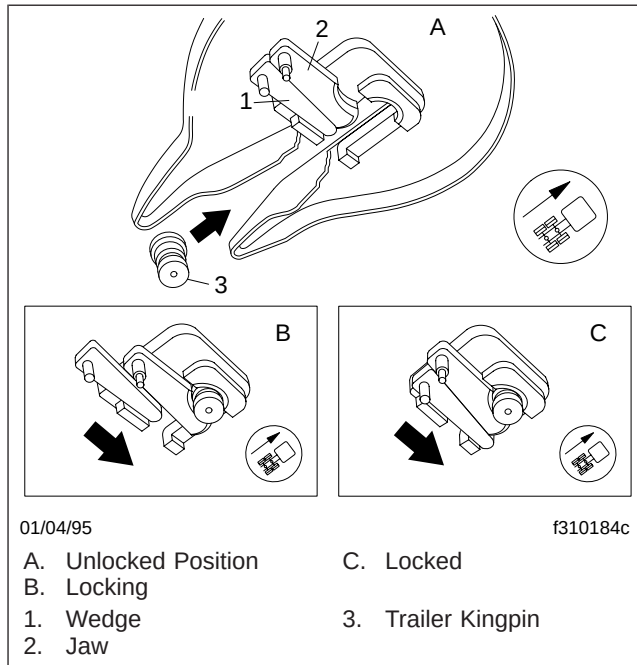

Fig. 10.16, Fontaine Kingpin Lock Mechanism
The Fontaine fifth wheel lock mechanism for the trailer kingpin (Fig. 10.16) consists of a spring-loaded jaw and a sliding wedge.
During coupling (**Fig. 10.16**), the motion of the kingpin entering the jaw will actuate the jaw and wedge. The jaw will move behind the kingpin, followed by the wedge. The purpose of the wedge is to reinforce the jaw and take up slack around the pin. Any wear on
3. Position the tractor so that the fifth wheel lock opening is in line (both vertically and horizontally) with the trailer kingpin. The kingpin should be in a position to enter the throat of the locking mechanism (**Fig. 10.16**). Adjust the trailer landing gear to give enough alignment height for positive kingpin lockup.